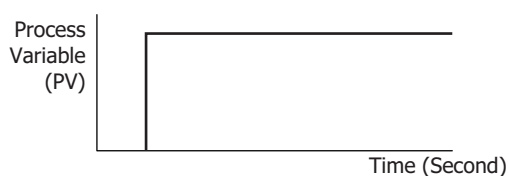

Figure 1. Process variable (PV) before PV filtering process
(3) Control Register +63: PV Filter Time Constant
The PV filter function is a software filter to stabilize the process variable (PV) affected by fluctuating processes, such as the pressure or flow rate, by calculating first-order lag of the process variable (PV). Even if the process variable (PV) changes as shown in the Figure 1, when the PV filter time constant is configured, the process variable (PV) changes as shown in the Figure 2. After the PV filtering process, the process variable (PV) reaches 63% of the process variable (PV) in T seconds. If the PV filter time constant is too large, it adversely affects the control results due to the delay of response.